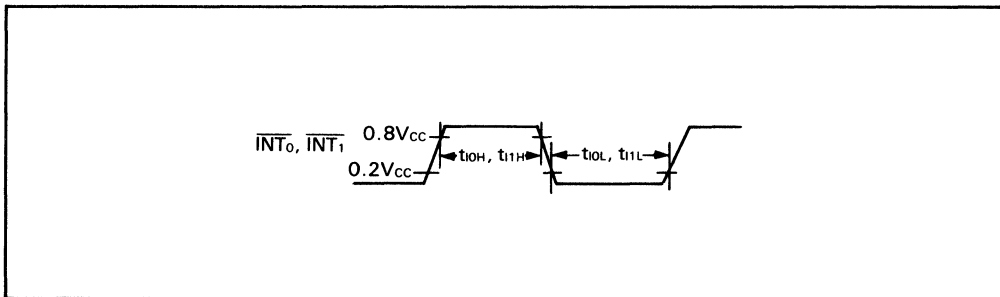

Figure 49. Interrupt Timing
4. See figure 49. The unit t_{cyc} is applied when the MCU is in the standby mode or active mode.
6. See figure 49. The unit t_{SUBcyc} is applied when the MCU is in the watch mode or sub-active mode. $t_{SUBcyc} = 244.14 \mu s$ (when 32.768 kHz crystal oscillation is used.)